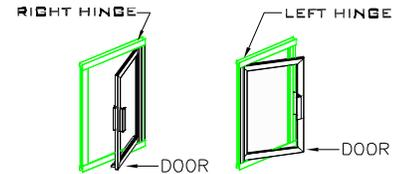
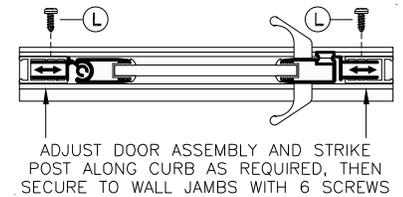
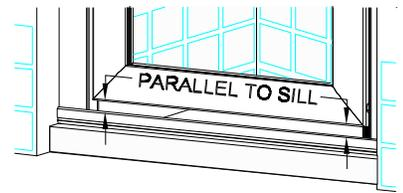

figure 3
figure 4
figure 5
5. Decide from which side your Door Assembly (D) is to hinge (left or right, your choice) see figure 3. Insert the Door Assembly's Hinge Post (c1) into the Wall Jamb from which it is to hinge. Now, insert the Strike Post (D) into the other Wall Jamb (see exploded view - sheet 1). Magnet on door should face toward interior of enclosure, while magnet on Strike Post should face toward the exterior.
6. Attach the Door Handles (E) to the Door Assembly using two(2) Door Handle Screws (F) as shown in exploded view - sheet 1.
7. Adjust Door Assembly and Strike Post along curb as required (see figure 4). Bottom of Door Assembly must always remain parallel to Sill in order for door to operate properly (see figure 5). When satisfied with door operation, secure Hinge Post (c1) and Strike Post (D) to the Wall Jambs (B) using six 638PHPT Screws (L), (see figure 4) and exploded view - sheet 1.